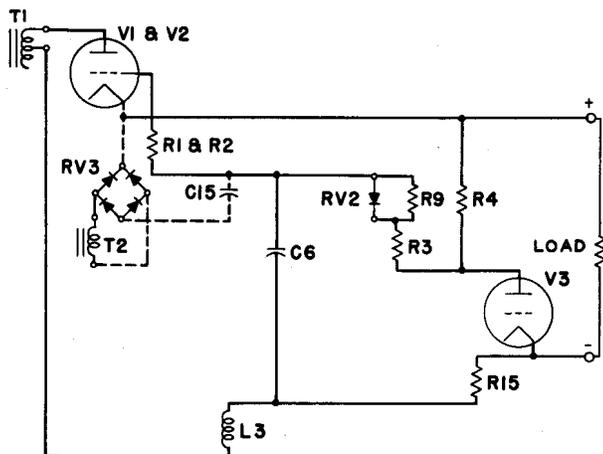

FIG. 1B
2.03 After V1 and V2 fire, the circuit condition is as shown in Fig. 1B. The output current from shunt tube V3 flowing through resistor R4 provides the drop used as the grid bias for V1 and V2. The polarity of C6 is reversed, and the voltage across it becomes, at full load, slightly higher than the output voltage of the power unit.